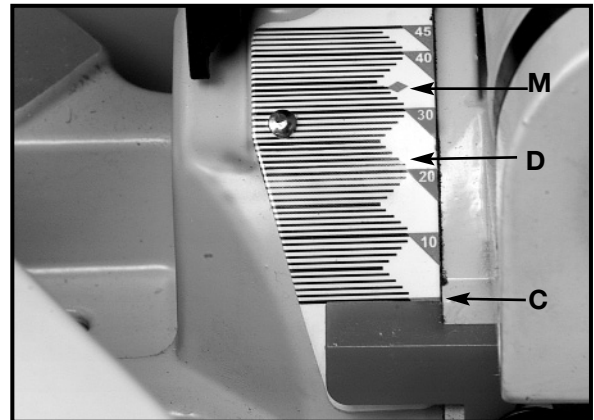

Fig. 19
3. Positive stops are provided to rapidly position the saw blade at 90° and 45° to the table. Refer to the section of this manual titled "**ADJUSTING 90° AND 45° BEVEL POSITIVE STOPS.**" The bevel angle of the cutting arm is determined by the position of the pointer (C) Fig. 19, on scale (D).
4. In addition, a marked indicator (M) is provided on the bevel scale (33.9°) for cutting crown moulding. Refer to the "**CUTTING CROWN MOULDING**" section of this manual.